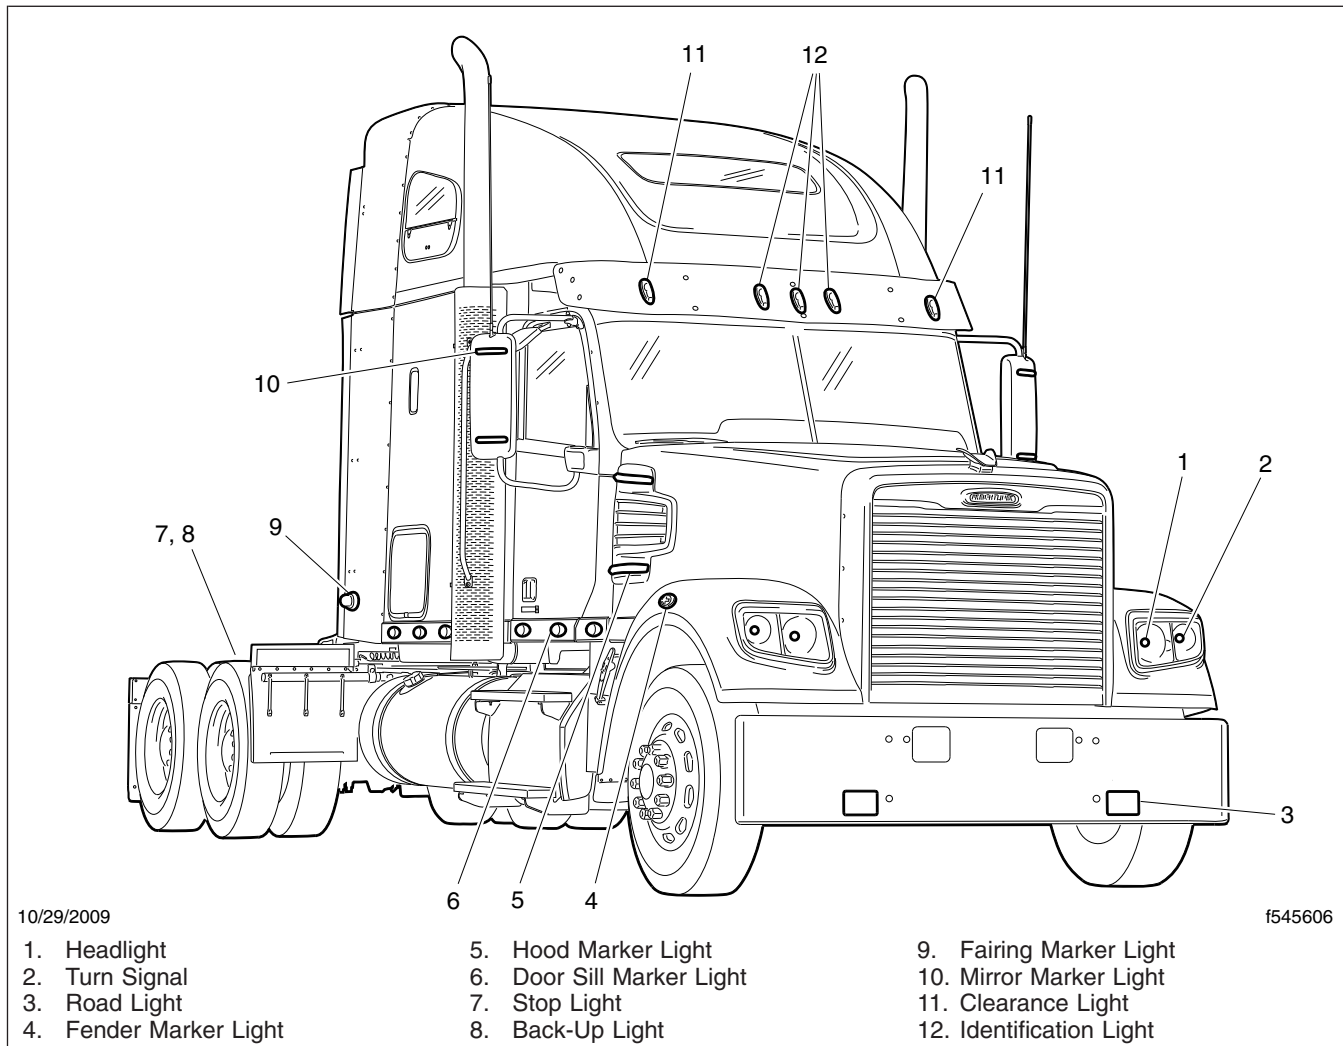

Fig. 20.6, Exterior Lights
11. Check the operation of all exterior lights. See Fig. 20.6.